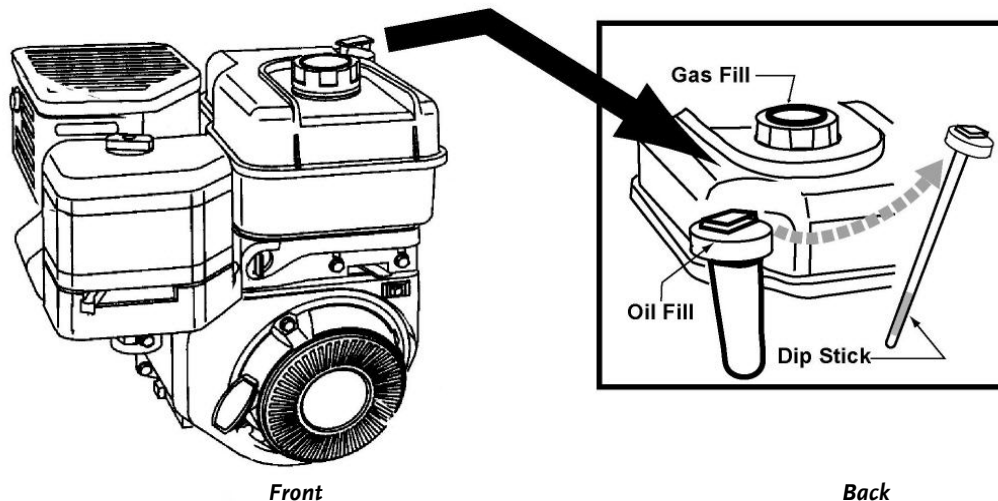

Figure 26
1. Place the machine on a level surface and initially add 16 oz. ($\frac{1}{2}$ quart) of SAE 30 oil, recommended by the Engine Manufacturer, and wait one minute for the oil to settle (**Figure 26**).
2. Check the dipstick and continue adding a few ounces of oil at a time, rechecking the dipstick until the oil reaches the fill mark. Be careful not to overfill (**Figure 26**).
2. Check the engine oil level every time you use the machine (see **Figure 26** on page 26).
3. Check the gasoline level (see **Figure 26**).